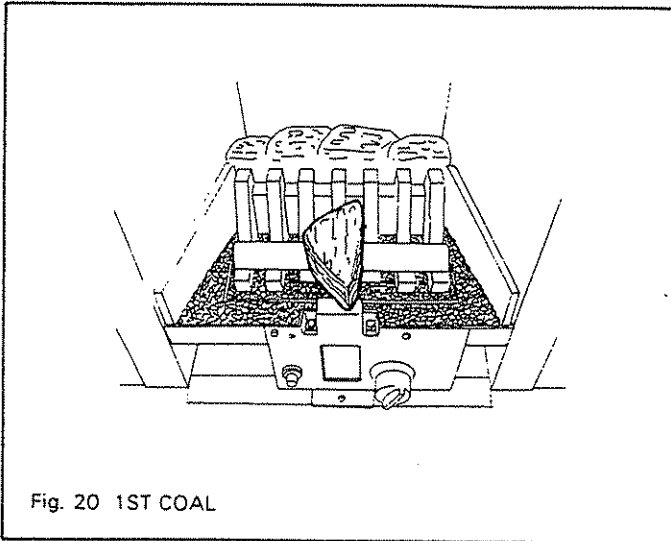

Fig. 20 1ST COAL
7.7.5.1 Place the large triangular shaped coal on top of the pilot cover and so that it forms a bridge between the pilot cover and the coal support grid (see fig. 20).